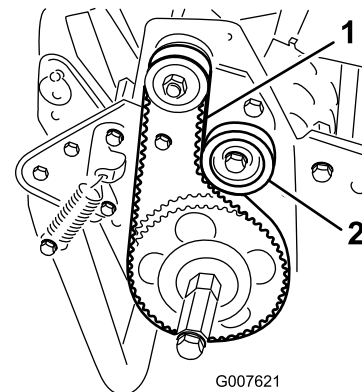

Figure 37
2. Check the tension by pressing the belt at mid span of the pulleys (Figure 37) with 18–22 N (4 to 5 lbs) of force. The belt should deflect 6 mm (1/4 inch).
- A. Loosen the idler pulley mounting nut and pivot the idler pulley clockwise against the backside of the belt until the desired belt tension is attained (Figure 37).